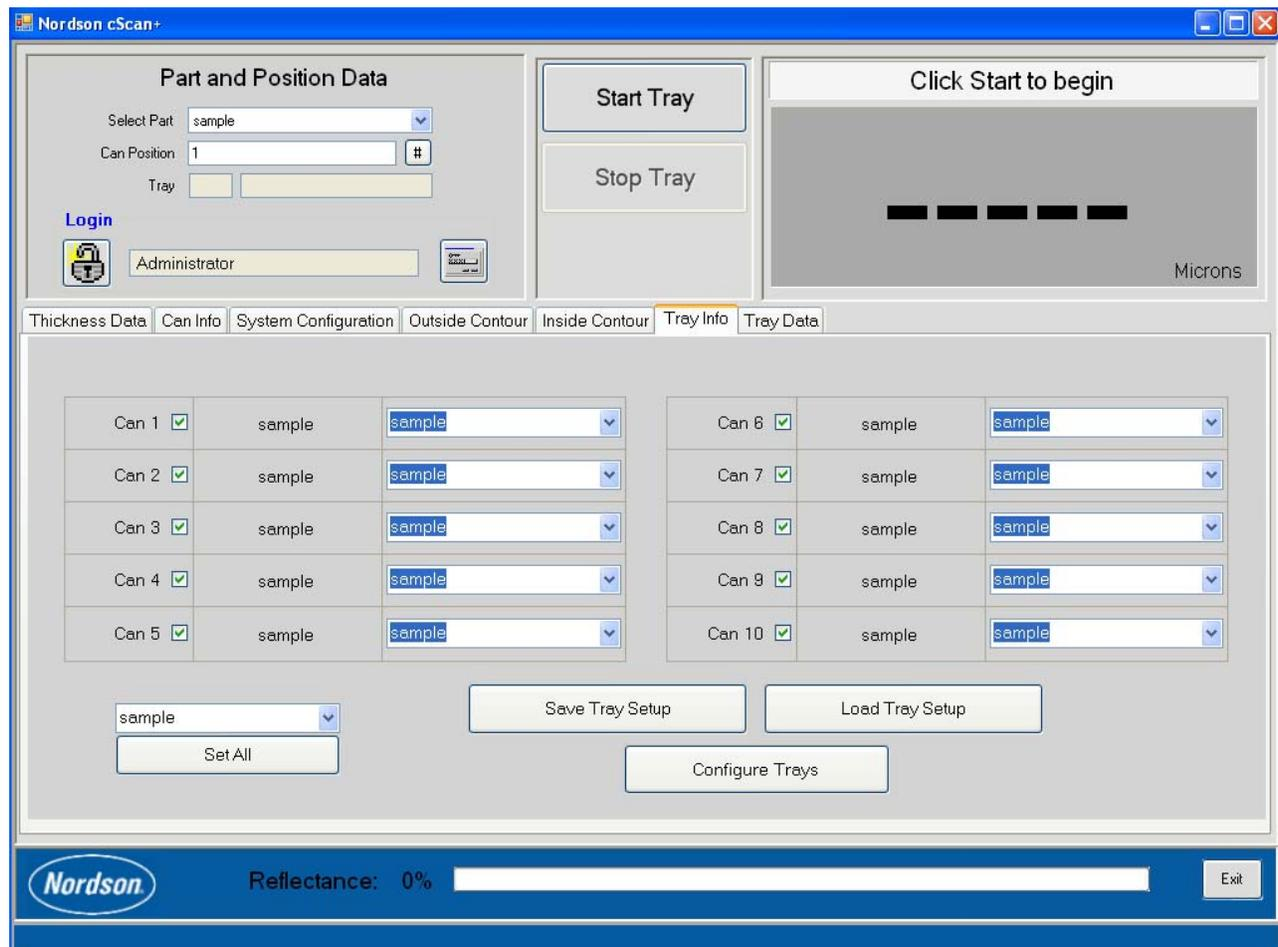
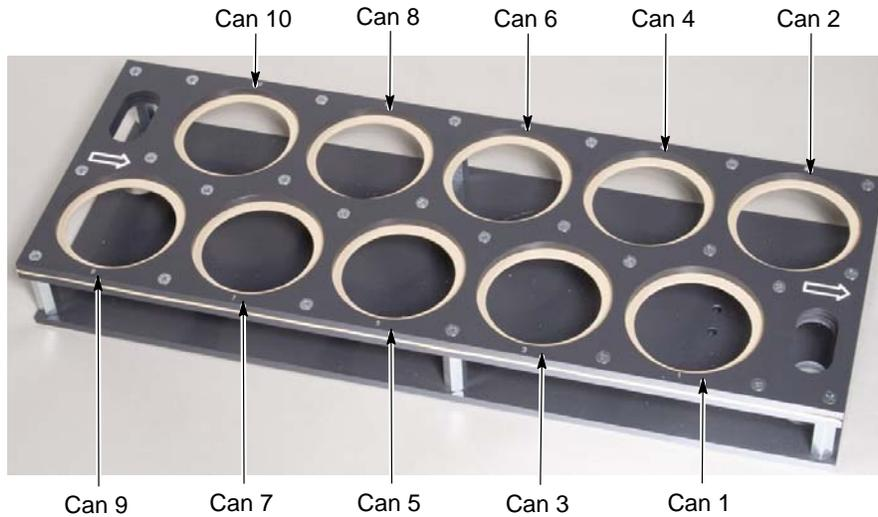

Figure 16 Tray Menu Screen
Figure 17 Can Cell Numbers
See Figure 16.
2. Choose the can recipes to be used for the individual tray by placing a check mark next to the can number. (In Figure 16 all ten cans are shown as being selected. See Figure 17 to determine the corresponding can number to the can cell.